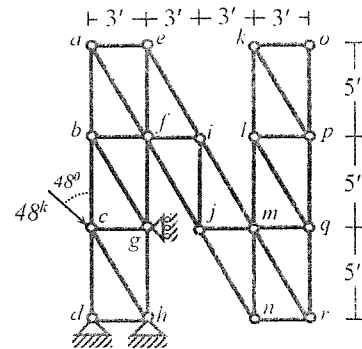

Fig.3
3. Identify zero-force members of the truss loaded as shown in Fig.3. Determine the displacements of joint  $c$  and  $g$ . Also calculate axial force of member  $ch$ .